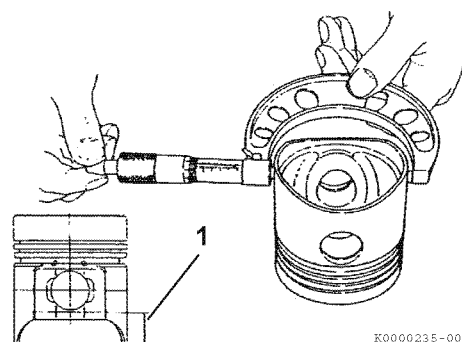

Figure 6-61
4. Measure the diameter of the piston skirt at 90° to the wrist pin bore as shown (**Figure 6-61**). Measurements must be taken at a specified distance (**Figure 6-61, (1)**) from the bottom of the piston, based on engine model. Record the measurements. *See Piston on page 6-8 for specifications.*